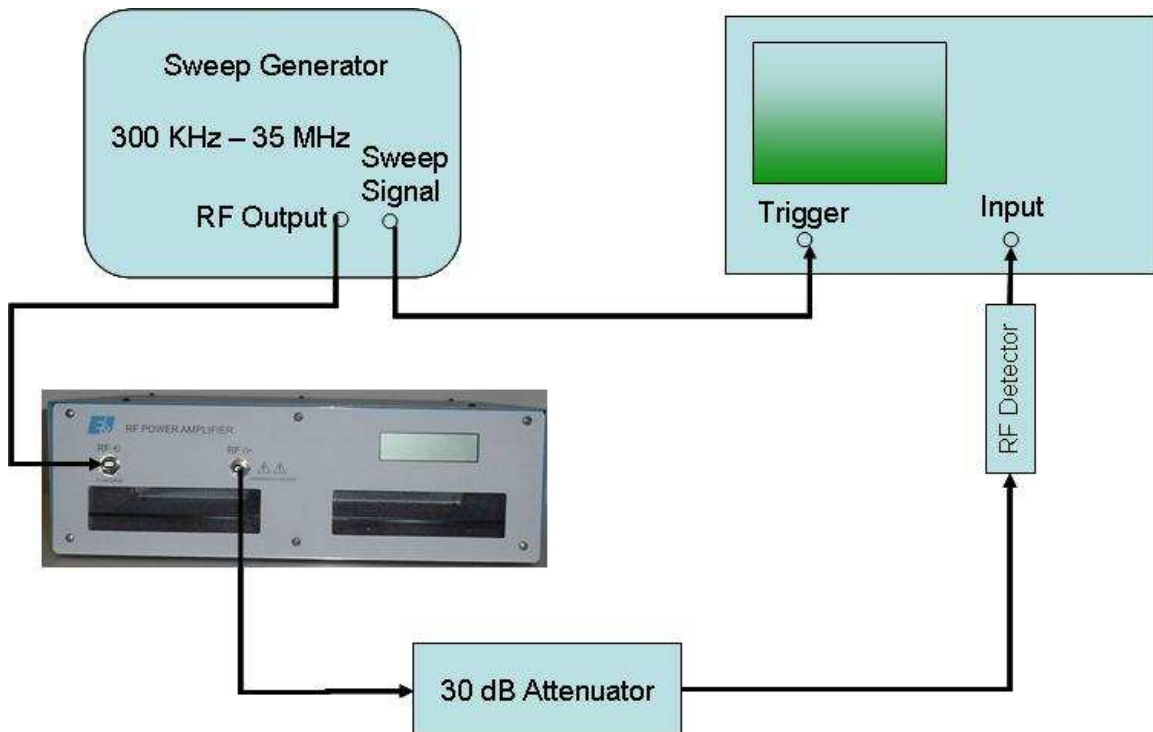

Figure 4-1. Gain Measurement
2. Connect the equipment as shown in Figure 4-1, then proceed as follows:
- g) Reconnect the A150 into the test set-up of Figure 4-1.